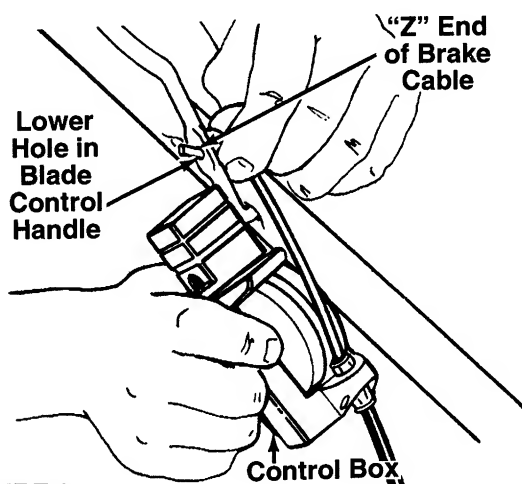

FIGURE 3.
4. Hook the "Z" end of the brake cable into the blade control handle from the **outside** to the **inside**. See figure 3.